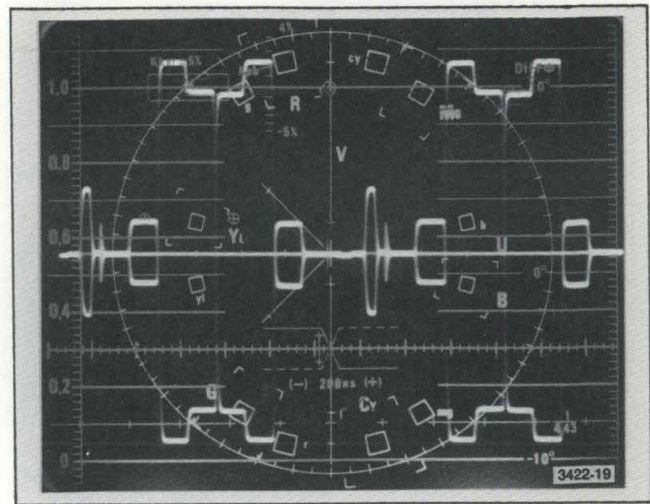

Fig. 3-20. Line Sweep Display of Color Demodulated Output.
3. A line sweep display (2H) of R-Y axis demodulation is obtained. See Fig. 3-20.
**Differential Gain (DG) Measurements**